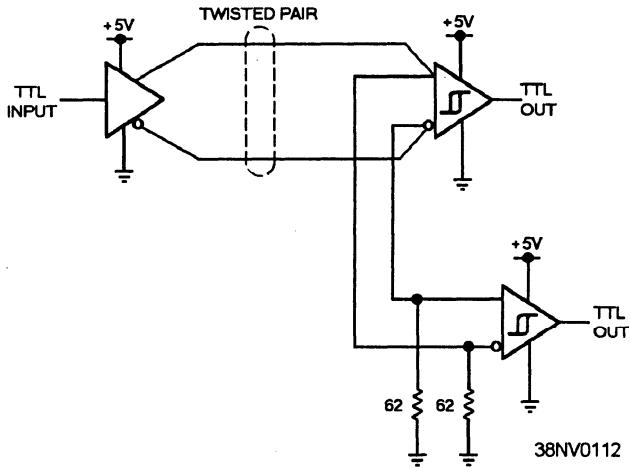
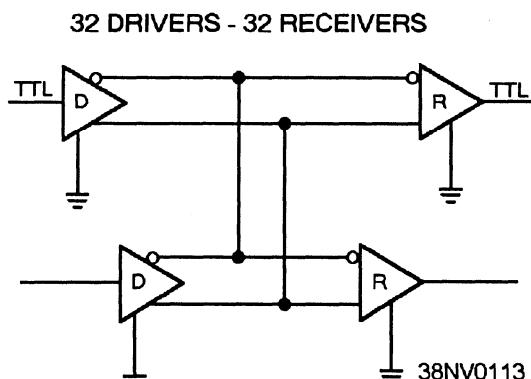

Figure 4-37.—Example of differential point-to-point line drivers and receivers connected in parallel.
Figure 4-38.—Example of differential multiple source and destination line drivers and receivers.
- **Differential drivers and receivers** — Differential drivers and receivers are used over long distances for high-speed communications. They are usually twisted pairs of wires or coaxial cables. Differential types can be point-to-point (fig. 4-37) or multiple source and destination (fig. 4-38).